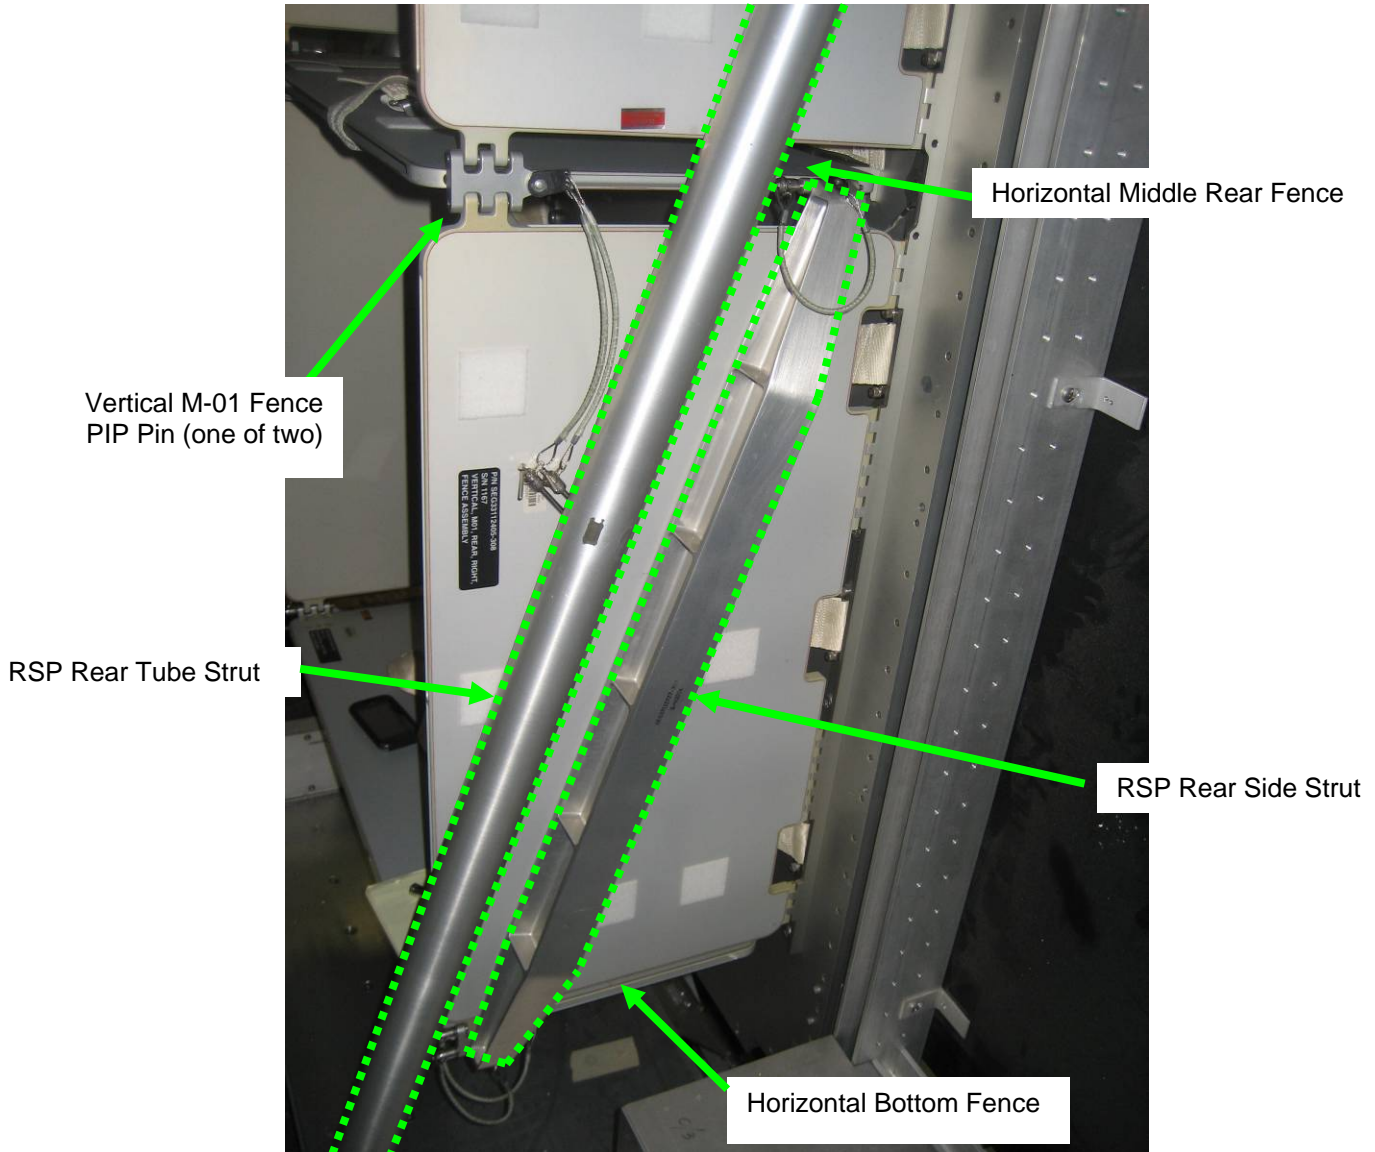

Figure 1.- Overview of RSP rear parts with rack still rotated up.
- 2.1 Remove RSP Rear Side Strut from Horizontal Middle Rear Fence and Horizontal Bottom Rear Fence, tethered PIP pins (two). Temporarily stow. Refer to Figure 1.
- 2.3 Remove tethered PIP pins (two) securing Vertical M-01 Fence to Horizontal Middle Rear Fence and Horizontal Bottom Fence. Refer to Figure 1.
4.1 Swing Vertical M-01 Fence until aligned with PIP Pin clevises on Horizontal Middle Rear Fence and Horizontal Bottom Fence. Install PIP Pins (two) into Vertical M-01 Fence clevises. Refer to Figure 1.
Refer to Figure 1.